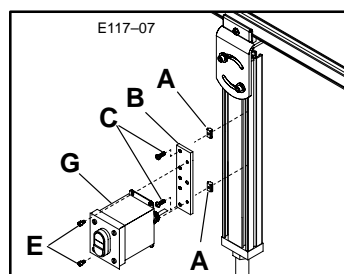

Figure 7: Start-Stop Box Horizontal Mounting to Aluminum Stand Leg
- a. For an aluminum Leg, select desired location and insert the two Single Drop-in T-bars into Leg channel by rolling each of them into position (see Figure 7).
- a. Refer to Figure 7 and disassemble and re-attach Pushbutton Box assembly to the Mounting Plate and Mounting Brackets in the manner shown.
- b. Then, attach assembly to the Single Drop-in T-bars, using the M6 x 16 mm Button Head Cap Screws (Figure 7). Tighten Screws with 4 mm Hex Key Wrench provided.